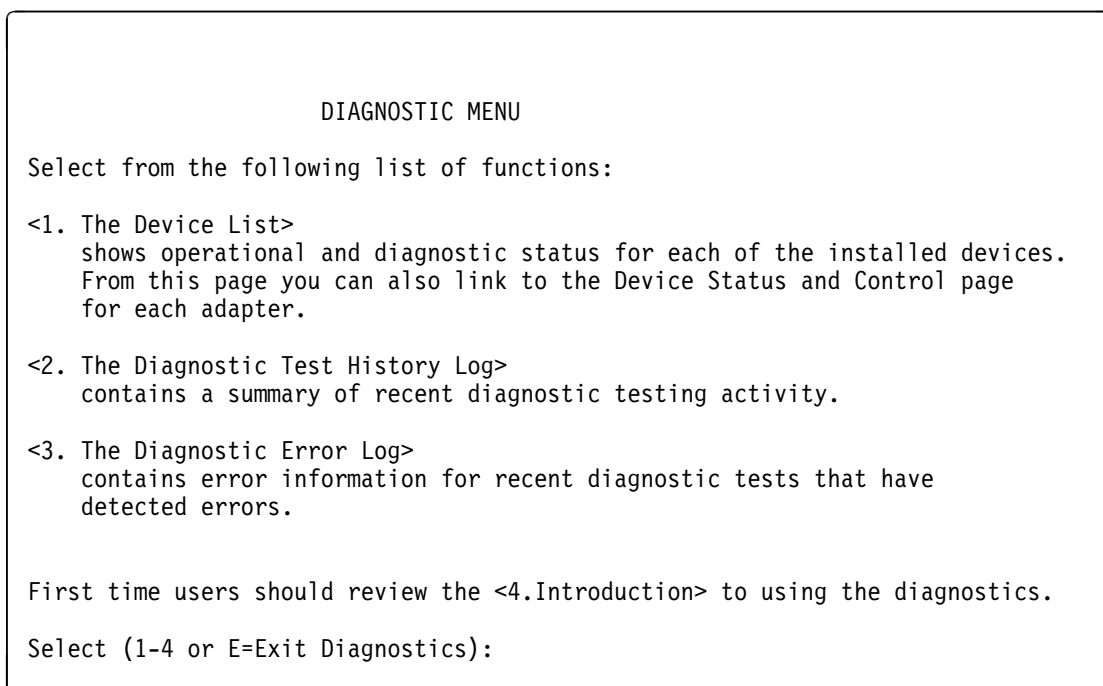

Figure 6-1. Diagnostics Main Menu
2. The Diagnostic Menu appears (Figure 6-1). To make your selection, type in the number of your choice and press **Enter**.
2. The Diagnostic Menu (see Figure 6-1 on page 6-2) appears. To make a selection, type in the number of your choice and press **Enter**.